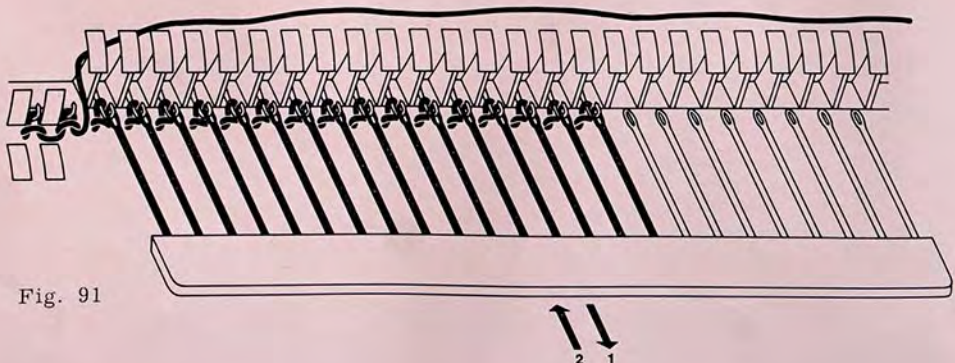

Fig. 91
At right take $\frac{1}{4}$ of back sts (16) on decker comb : Place yarn behind sinkers, put 16 sinkers in neutral-position, hook in comb, pull forwards and push backwards, holding knitting lightly by hand underneath the machine, fig. 91.
Before knitting the leg you have to transfer 16 sts at each end from back to front as shown in figs 91 to 96. The length of leg depends on size required. Our suggestion is for size 8 1/2 to 9 with a length of 50 rows tubular, which means 100 rows indicated by RC.